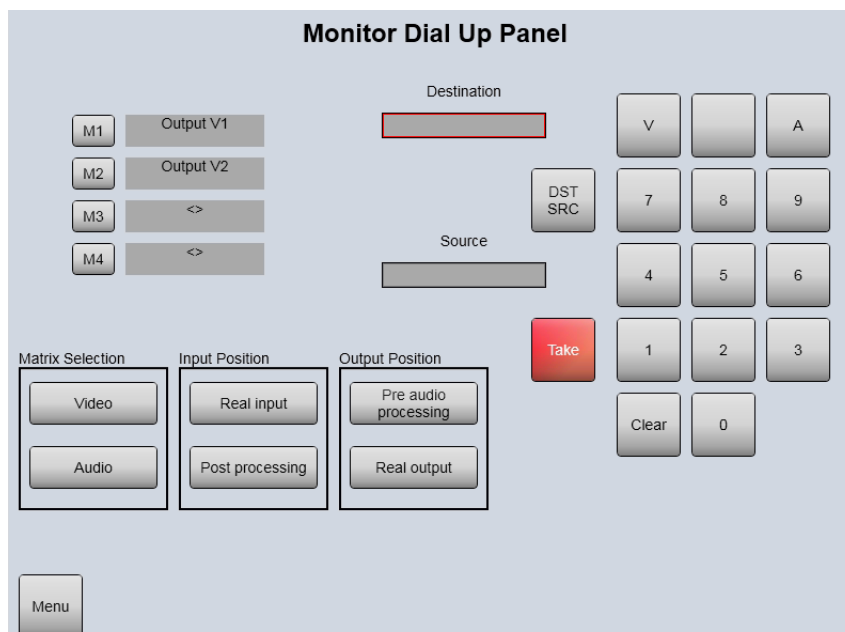

Figure 46 Monitor Dial Up Panel
2. If the selected monitor output is already set to output a signal the current settings for that output are displayed as red buttons on the door PC (see Figure 46).